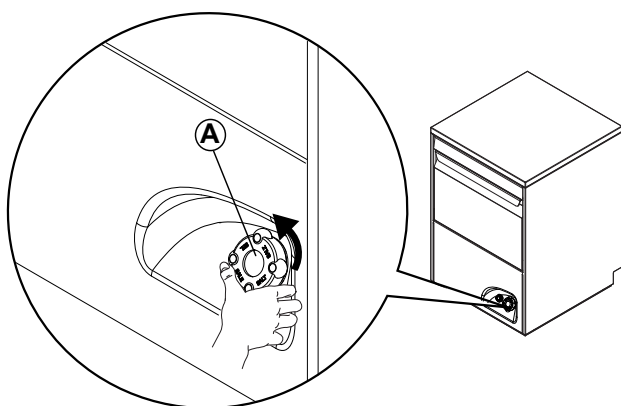

Figure 28
- Unscrew cap "A" (Figure 28) of the salt container, turning it anticlockwise.